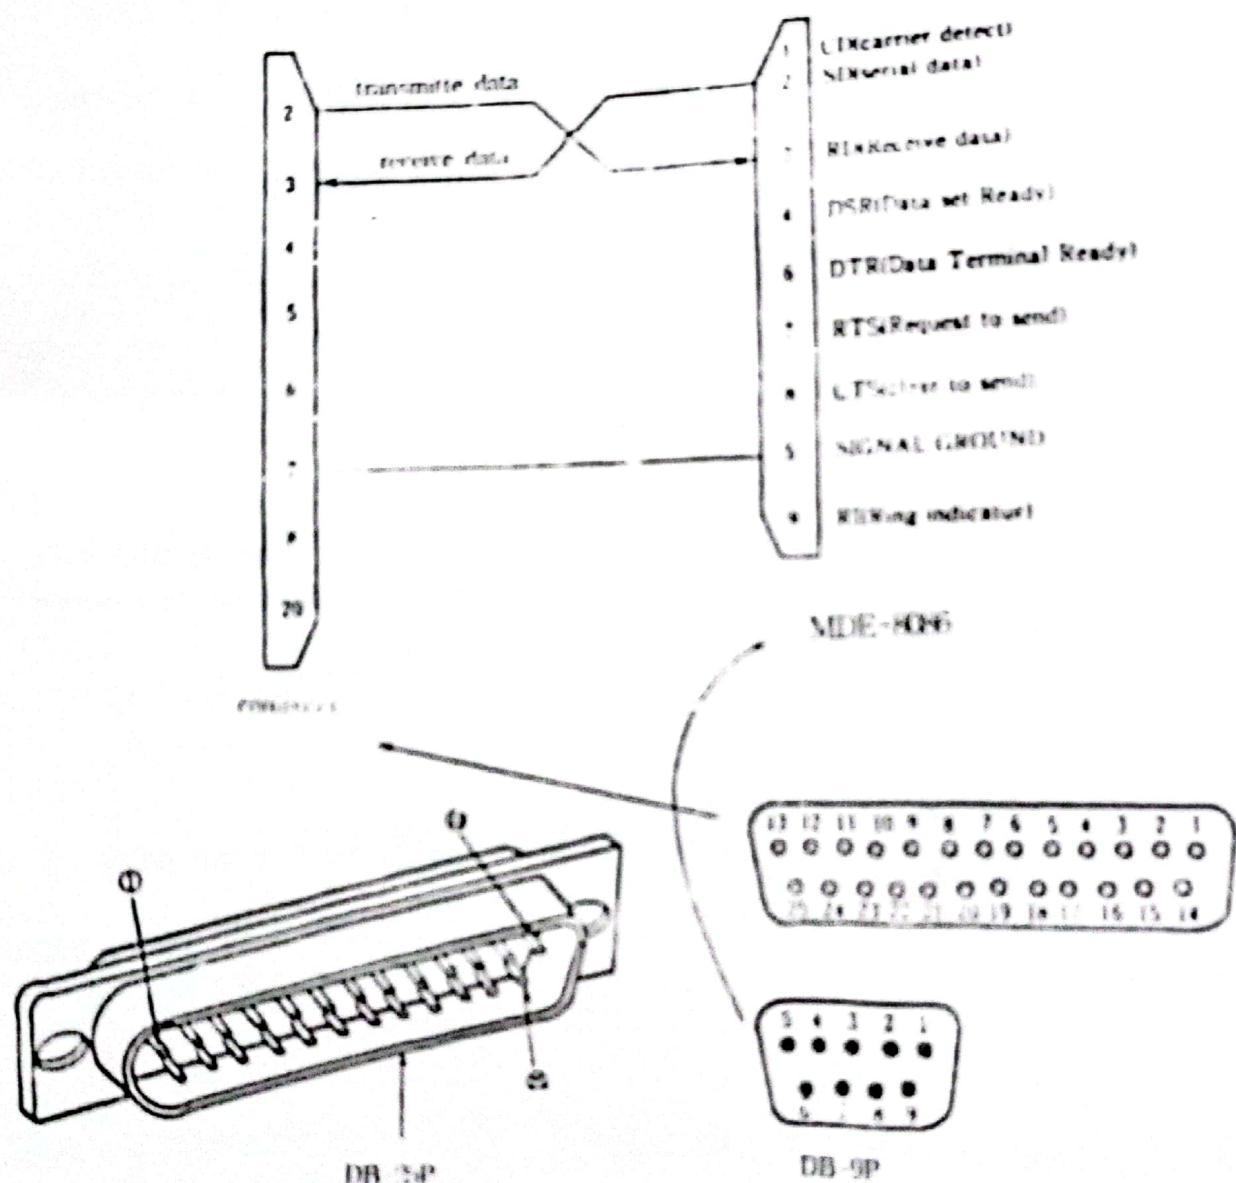

FIGURE 4-1. HOW TO CONNECT CABLE RS-232C
① The connector of computer RS-232C is 25 pin and RS-232C of MDE-8086 is 9 pin, must be connect like Figure 4-1.